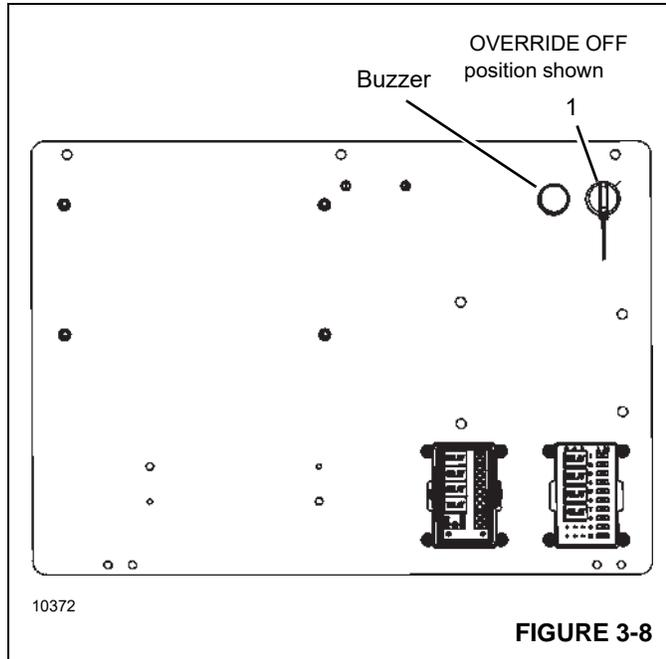

FIGURE 3-8
The RCL bypass switch (1, Figure 3-8) located behind the cab seat is an off/on switch and overrides the RCL and crane control lockouts until the switch is turned to the OFF position. The RCL bypass switch (1) is not a momentary switch and remains engaged until turned OFF.